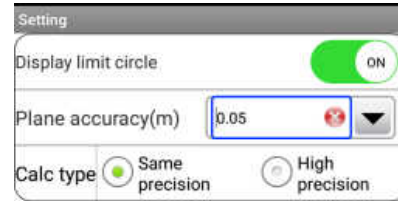

Figure 4.8-2
2、Click the “Settings” button  to enable or disable the display of tolerance circles on the diagram, as shown in Figure 4.8-2. By setting the tolerance value for planar accuracy, a circle with a radius equal to the tolerance value will be displayed at the inspection point position on the diagram. If the measured coordinates fall within this circle, they are considered acceptable. The calculation method for the mean error differs for precision testing and high-precision testing, using different formulas for the final calculation of the mean error.